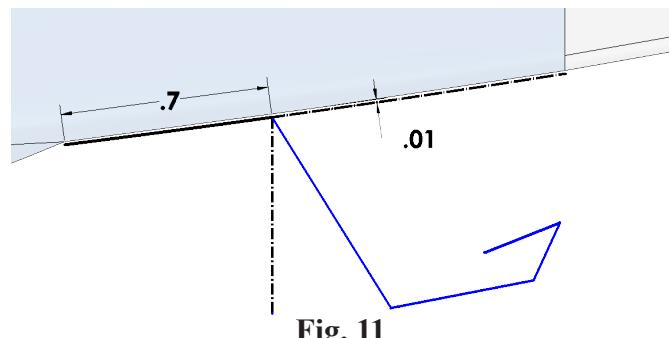

Fig. 11
Step 15. Click **Line**  (L) on the Sketch toolbar.
Step 16. Draw **4 lines**, **Fig. 11**. Do not allow any relations, such as horizontal, vertical perpendicular.